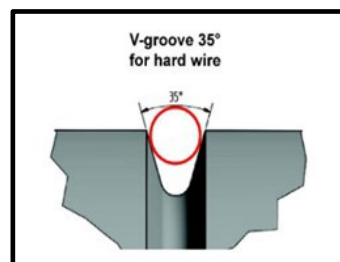
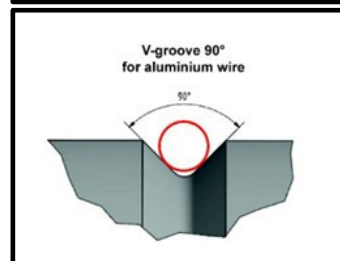
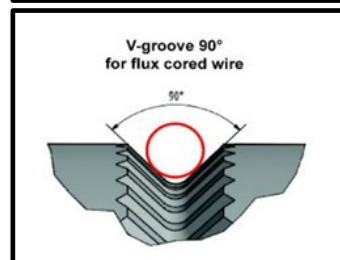

Fig. 9
Fig. 10
Fig. 11
- ⇒ Use the drive roll with a groove that matches the wire diameter chosen. There are different sizes and shapes of drive rolls. For .023", .024", and .025" diameter wire, use a drive roll marked 0.6; for .030" wire, use a drive roll marked 0.8; for .035" wire, use a drive roll marked 0.9 or 1.0; for .045", .047", and 3/64" wire, use a drive roll marked 1.2. (**Note: Drive rolls are reversible; there are two different size grooves on the same drive roll, and the marking has to face you.**) Also, different materials require different drive roll groove shapes. For instance, mild steel wire, stainless steel wire, and silicon bronze wire typically use a standard V shaped drive roll (**Fig. 9**). Softer aluminum wire uses a U shaped, or V90 degree, drive roll (**Fig. 10**). Flux-cored wire, whether used with or without gas, and most hard-faced wire requires the use of a knurled drive roll—the little teeth provide extra traction on these wires (**Fig. 11**).